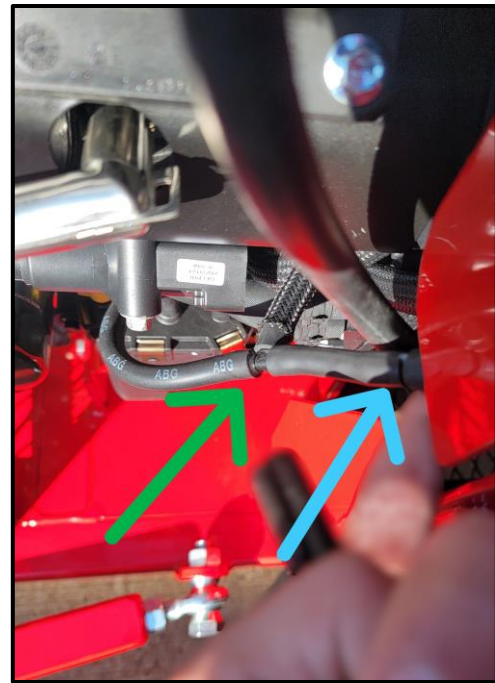

Figure 29 Fuel Line Tee on Engine
49. Disconnect the long fuel line from the connection shown by the blue arrow from the adapted fuel line connected to the tee shown by the green arrow near the oil filter as in [Figure 29]. **Ensure** to have a rag ready to collect any spilled fuel.